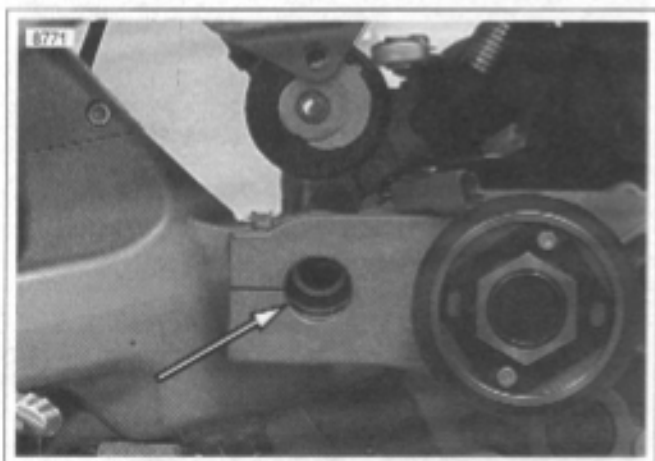

Figure 3-40. Aligning Swingarm to Crankcase for Pivot Shaft Installation
3. See Figure 3-40. With engine on a flat scissors jack, raise engine and chassis until swingarm and rear isolator mount align and pivot shaft can be installed.